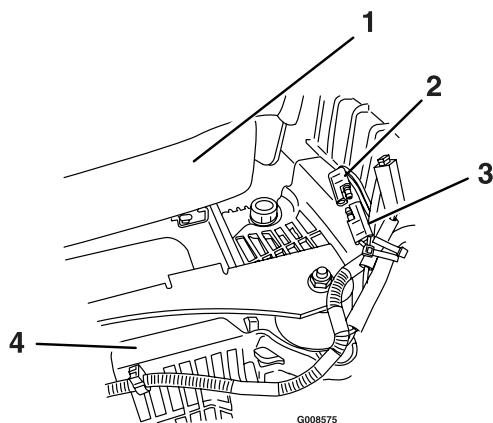

Figure 5
3. Remove the cap from the accessory wire on the main harness and plug into the light wire harness (see Figure 5).